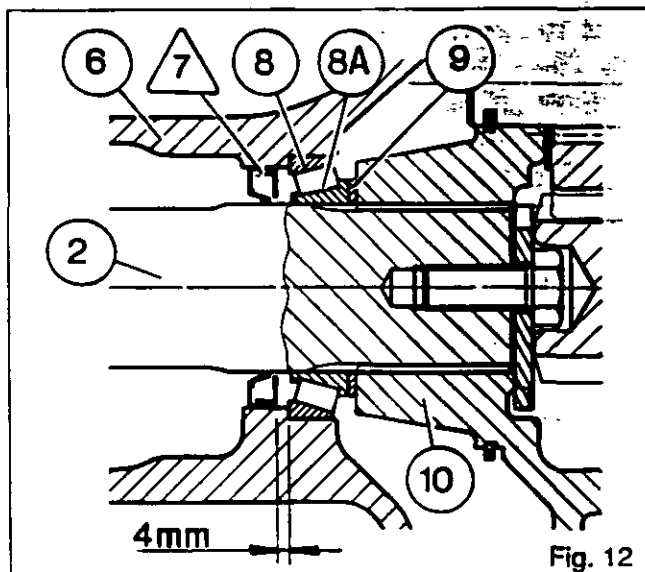

Fig. 12
- the spur washer (9) (Fig. 12)
4. Withdraw the shaft (2) from the trumpet housing.
- the cup (5)
- the housing (4) for seal /3\
- the cup (8)
So that the seal lip is not in the same place on the shaft, press on the seal until it is 4 mm from the shoulder of the cup (8) (Fig.12).